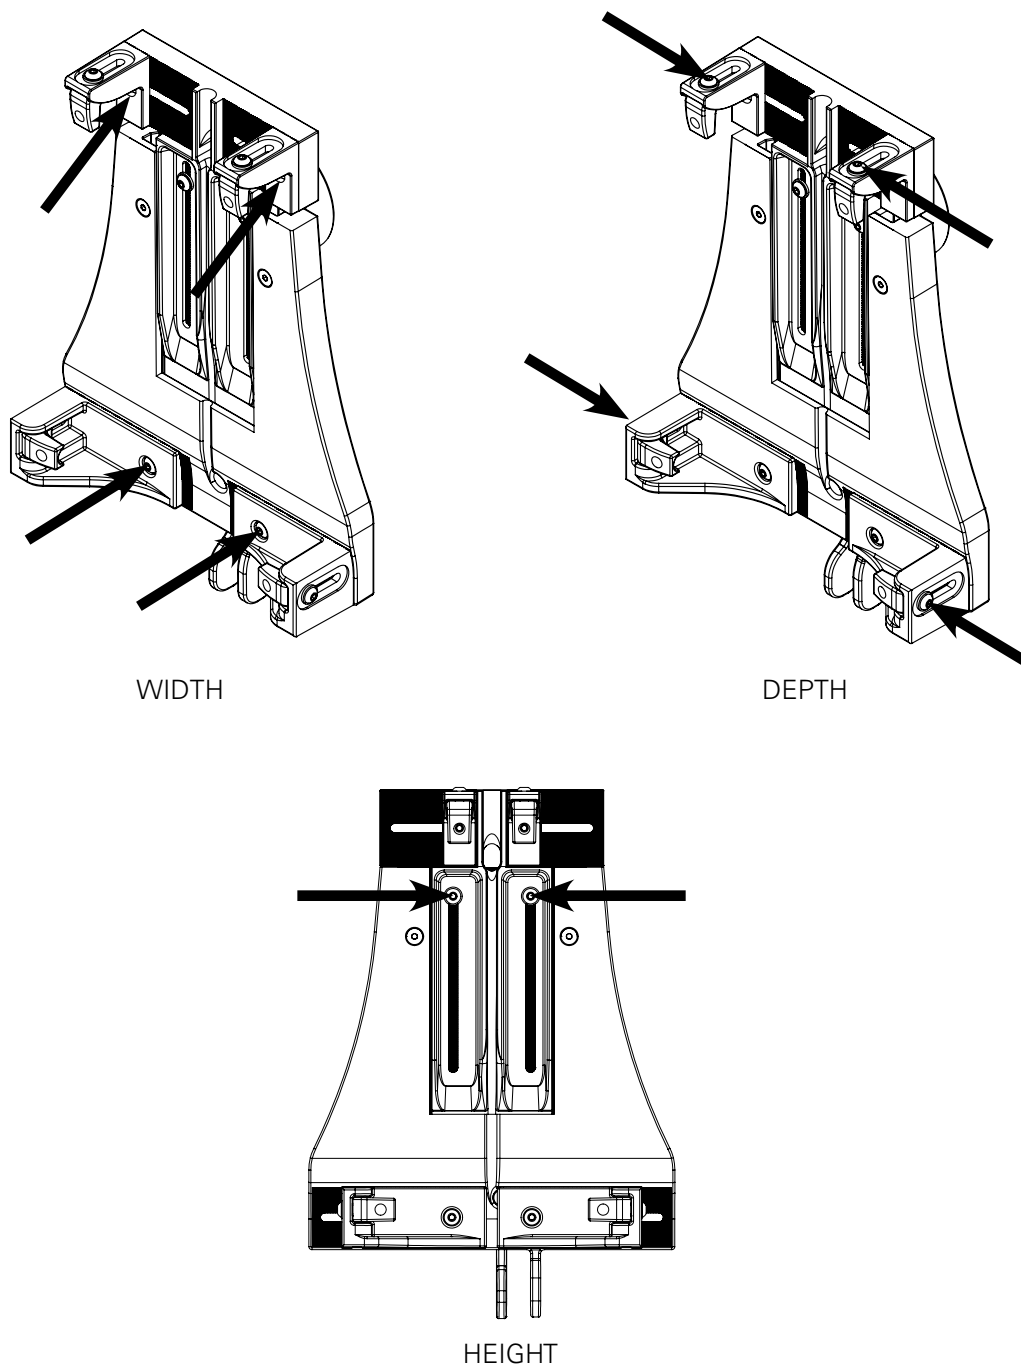

Figure 3
3. Use the hex wrench to loosen the screws on the width, depth, and height adjusters just enough so the components can slide. 10 screws total. *(figure 3)*